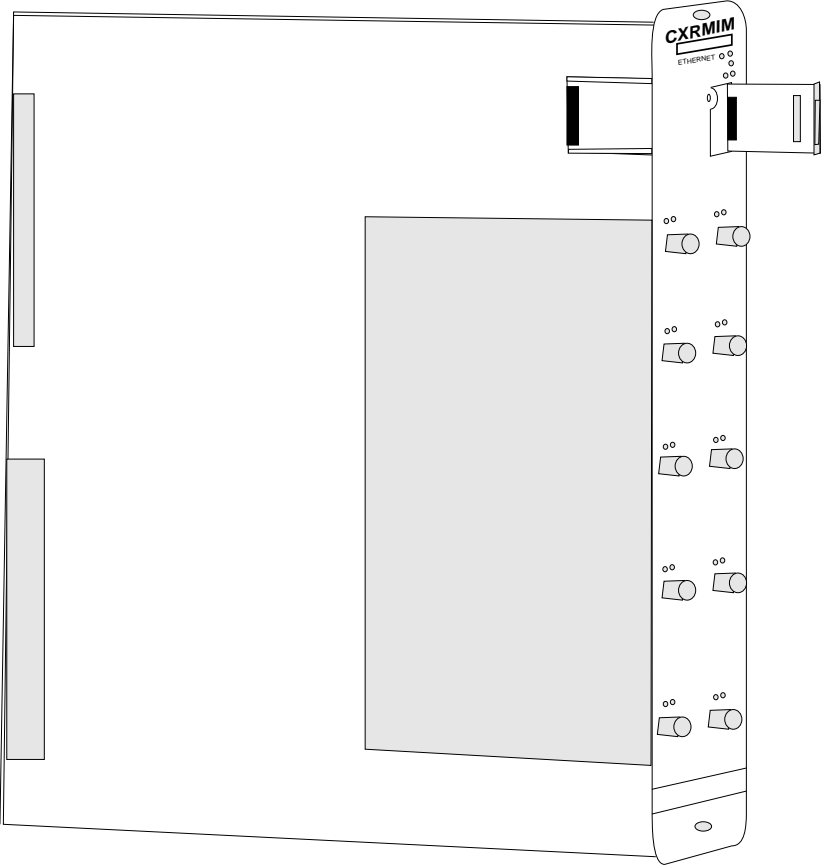

Figure 3-4. Installing an EPIM
2. Slide the EPIM you are installing into the EPIM slot (Fig. 3-4). Be sure that the card is in the top and bottom guides of the slot.